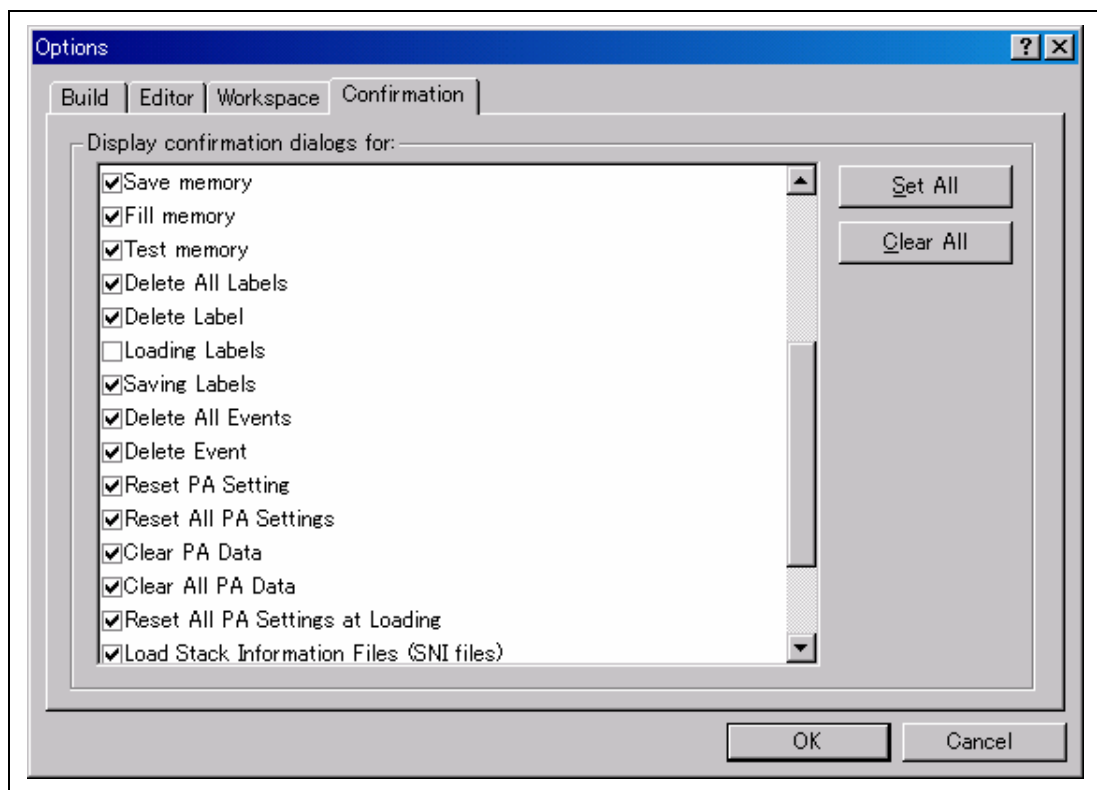

Figure 5.88 [Options] Dialog Box
- The [Load Stack Information Files (SNI files)] check box is checked in the [Confirmation] page of the [Options] dialog box (figure 5.88) that can be opened by choosing [Tools ->Options...] from the main menu.